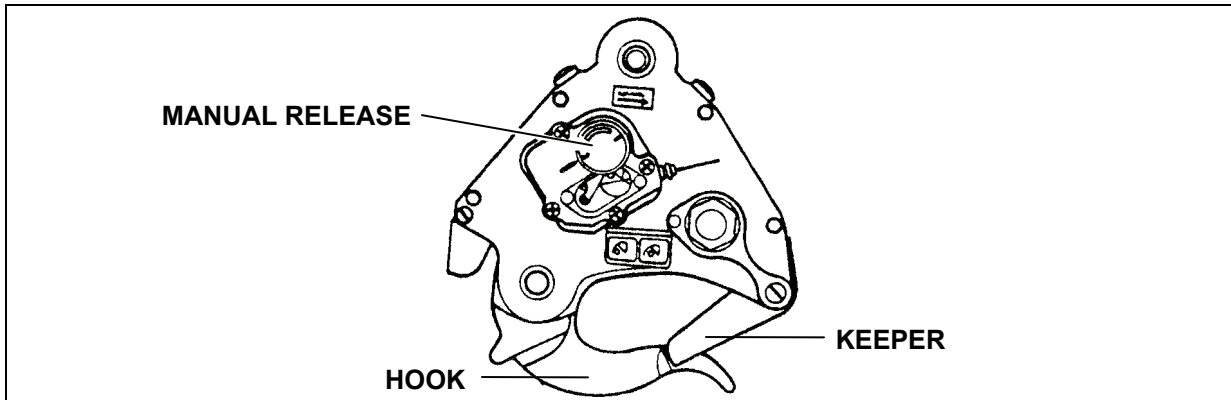

Figure 2-15. H-47 Forward and Aft Cargo Hooks
- The forward and aft cargo hooks (Figure 2-15) maximum capacity, when used to carry individual single-point loads, is 17,000 pounds; however, loads that weigh 7,000 to 10,000 pounds are normally carried on the center cargo hook. Normally, the two hooks are used together to carry a dual-point (tandem) load and the maximum load weight capacity is 25,000 pounds. The aircrew can open the forward or aft cargo hook electrically or manually from inside the aircraft. A manual release knob is located on the right hand side of either cargo hook. In an emergency, the ground crew can rotate the manual release knob counterclockwise to open the cargo hook.